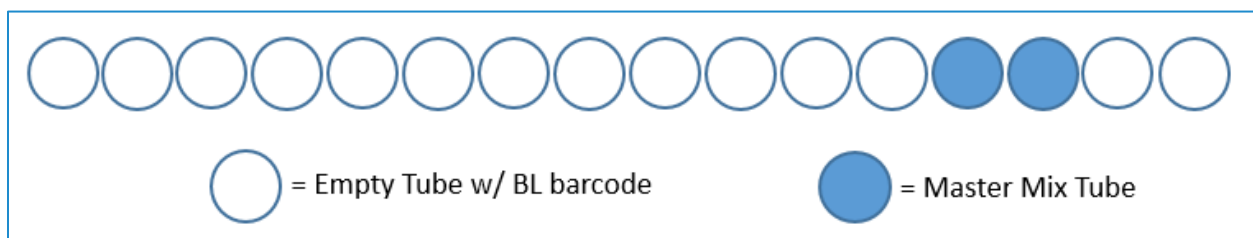

Figure 2 - Master Mix Rack
3.	<p>Place tubes in the Master Mix Rack (See Figure 2):</p> <ul style="list-style-type: none"> • Positions 3 and 4: the two tubes containing equal volumes of master mix. Ensure tubes are uncapped. • Positions 1, 2, and 5 through 16: empty tubes (with unique “BL” barcodes).